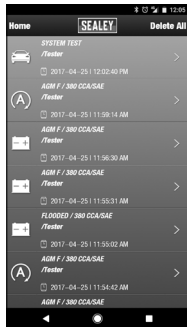

fig.26
- 7.5.2. Select from stored test records to view, email/text or delete. (fig.26)